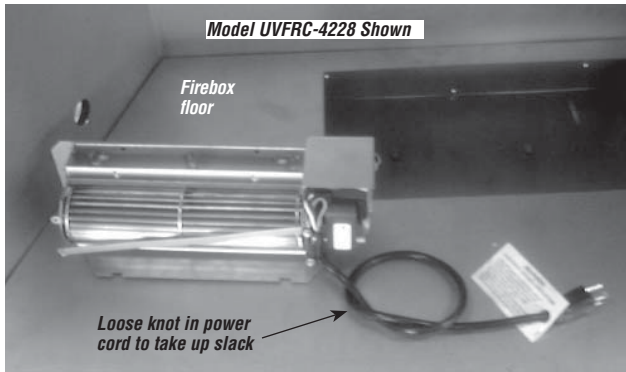

Figure 22
Step 3. Loosely tie a knot in the power cord to take up slack (see **Figure 22**).